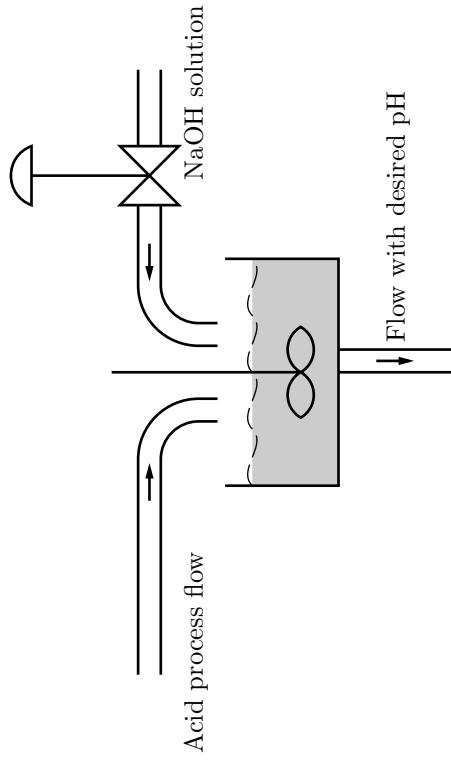

Figure 2.11a
2.11 In the continuously stirred tank, see Figure 2.11a, an acid process flow is neutralized by adding a concentrated NaOH solution. The acid process flow has a tendency to vary its pH with time, which gives undesired variation of the pH in the outflow. In an effort to reduce these variations one has decided to use control.